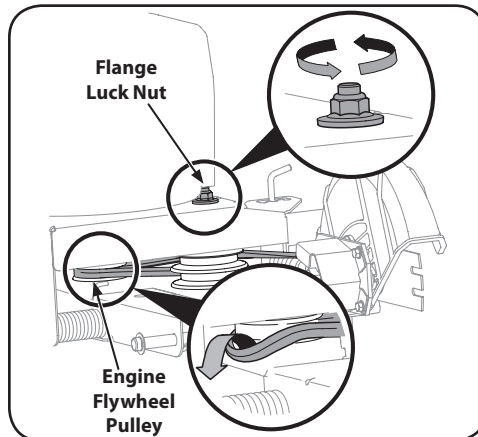

Figure 6-3
NOTE: To aid in reassembly, note the orientation of the drive belt on the two idler pulleys and the engine flywheel pulley prior to performing the following steps. Refer to Figure 6-3.
1. Working in front of the edger, loosen the flange lock nut on top of frame, allowing the idler pulley assembly to pivot slightly out from the frame. See Figure 6-3.
2. With your other hand, carefully reach under the rear of the edger and remove the belt from around the engine flywheel pulley. See Figure 6-3.